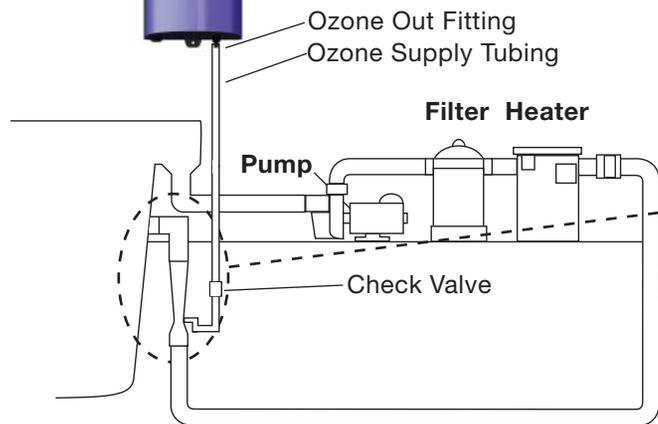

Figure 2 Installation Schematic for Injector Assembly
3. Screw 1-1/2" nipple loosely into 1-1/2" elbow, then screw this assembly into the pool's 1-1/2" eyeball fitting stopping when tight and elbow is pointed down (Figure 2).